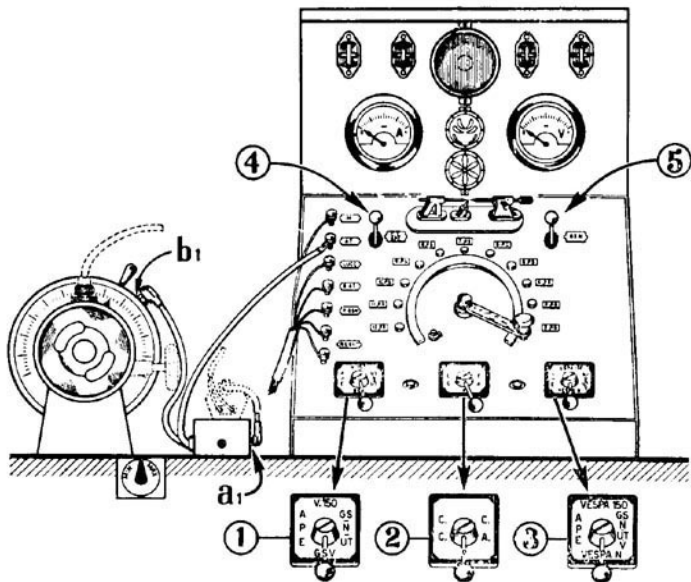

Fig. 80
The flywheel magneto test stand 8290/R (see Fig. 80) consists of the following units:
- (h) Three main switches (1-2-3 of Fig. 80), each showing the specific positions for the different flywheel magnetoes to be tested (see page 74). They control respectively:
- (i) Two switches (4 and 5 in Fig. 80), with two positions, for Vespa Commercial and Vespa G.S. having battery coil ignition (see also page 74).
- (c) Connect the cable from the ignition coil in the stator to clamp "a" of switching box (see Fig. 80).